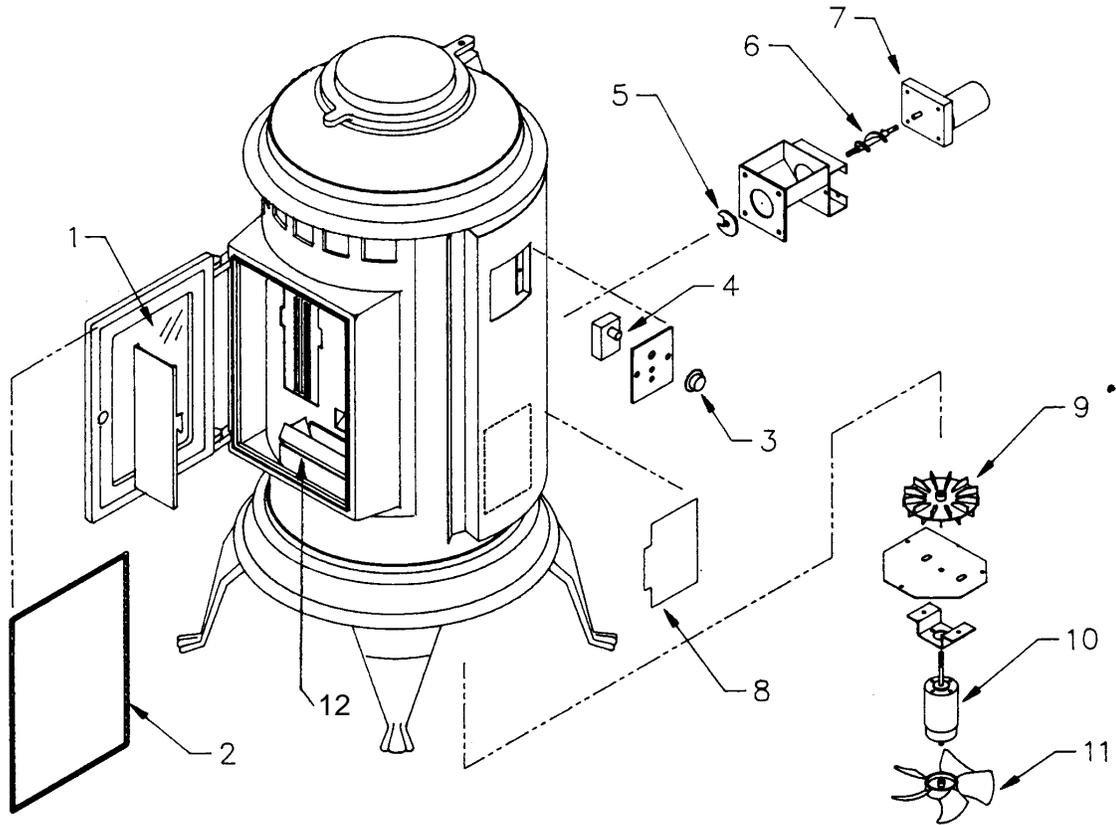

FIGURE 14
- d. Remove fire pot by lifting up and out. It may be brushed out or vacuumed. Fire pot should be cleaned regularly. Make sure slots in pot are not plugged. The area around and below the pot should be checked every five or six days depending on how many hours a day you are burning your heater and the quality of the pellets being burned. After a few days you will be able to determine the frequency required for cleaning. You can also remove the fire pot holder for thorough cleaning (see Figure 14). Scrape pellet feed chute with putty knife to remove hardened material on which sawdust can accumulate.